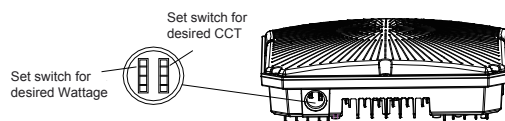

Figure 2
- Adjust the CCT and Wattage switch to the desired color temperature and wattage through the thread hole (Figure 2).